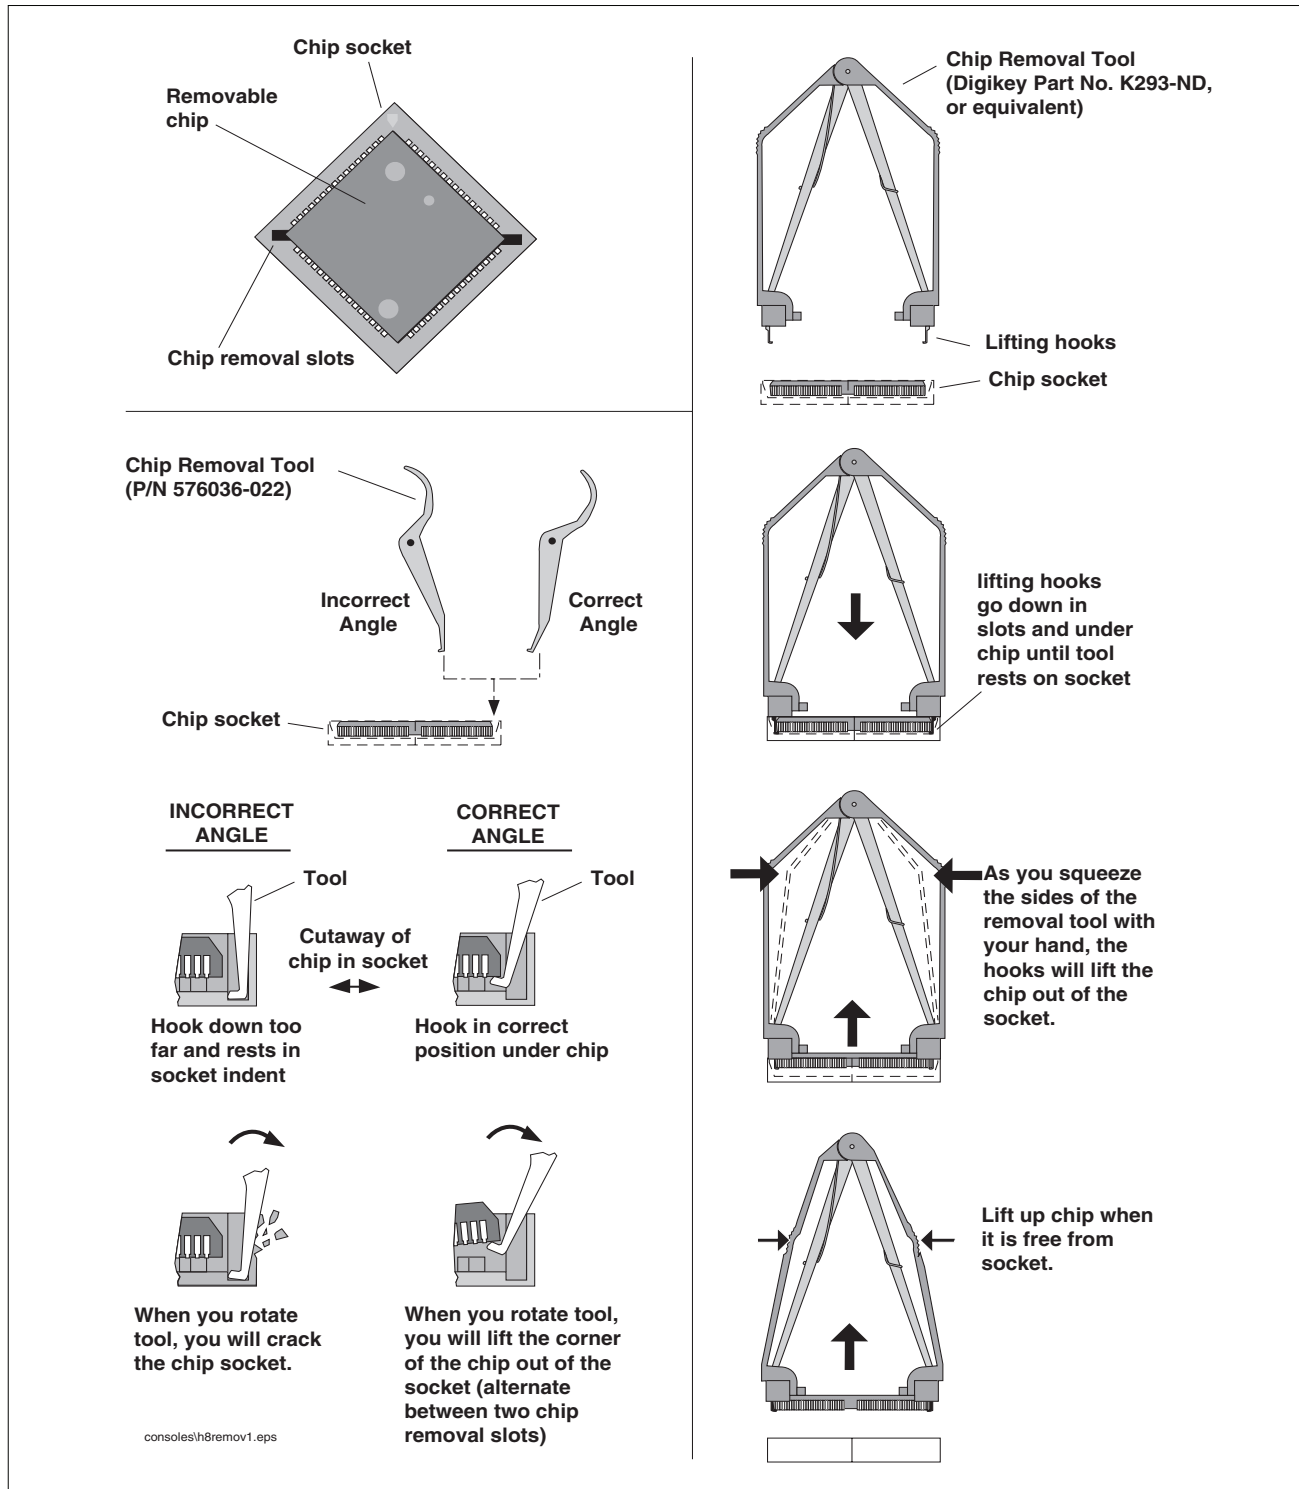

Figure 20. Removing PROM Chip
6. Remove the PROM chip following instructions in Figure 20.